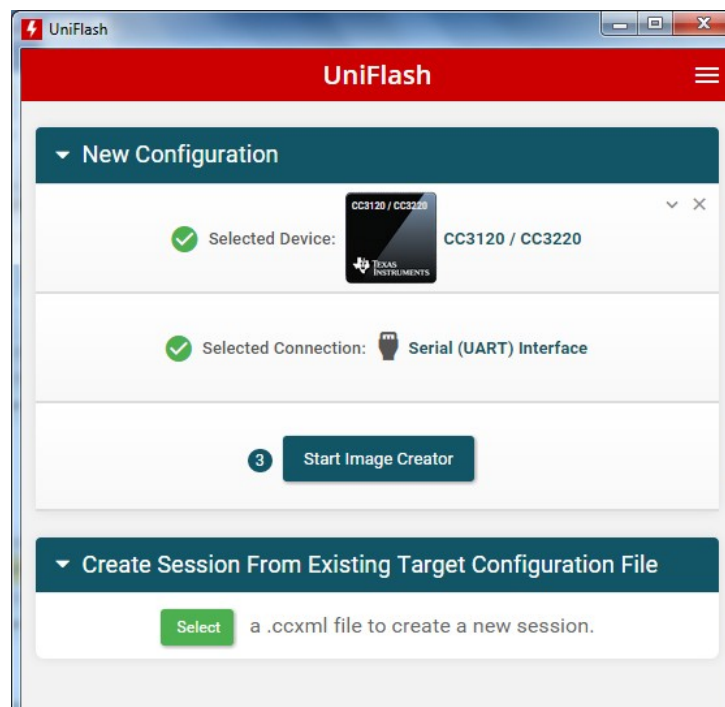

Figure 12. UniFlash – Choose CC3120 / CC3220 Device
4. Choose the CC3120/CC3220 device and then click the Start Image Creator button (see Figure 12).